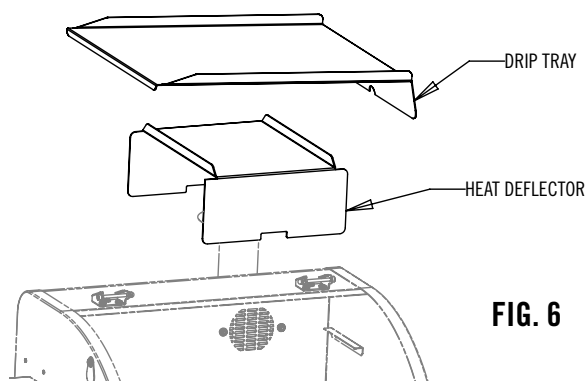
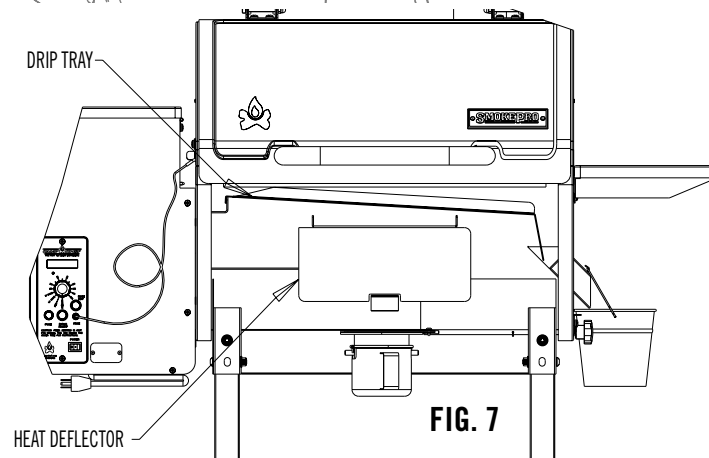

FIG. 6
FIG. 7
1. Install Ash Cup as shown in Fig 6. Never use grill without Ash Cup in place.
1. Install the Heat Deflector and Drip Tray as shown in Fig 6 and Fig 7.